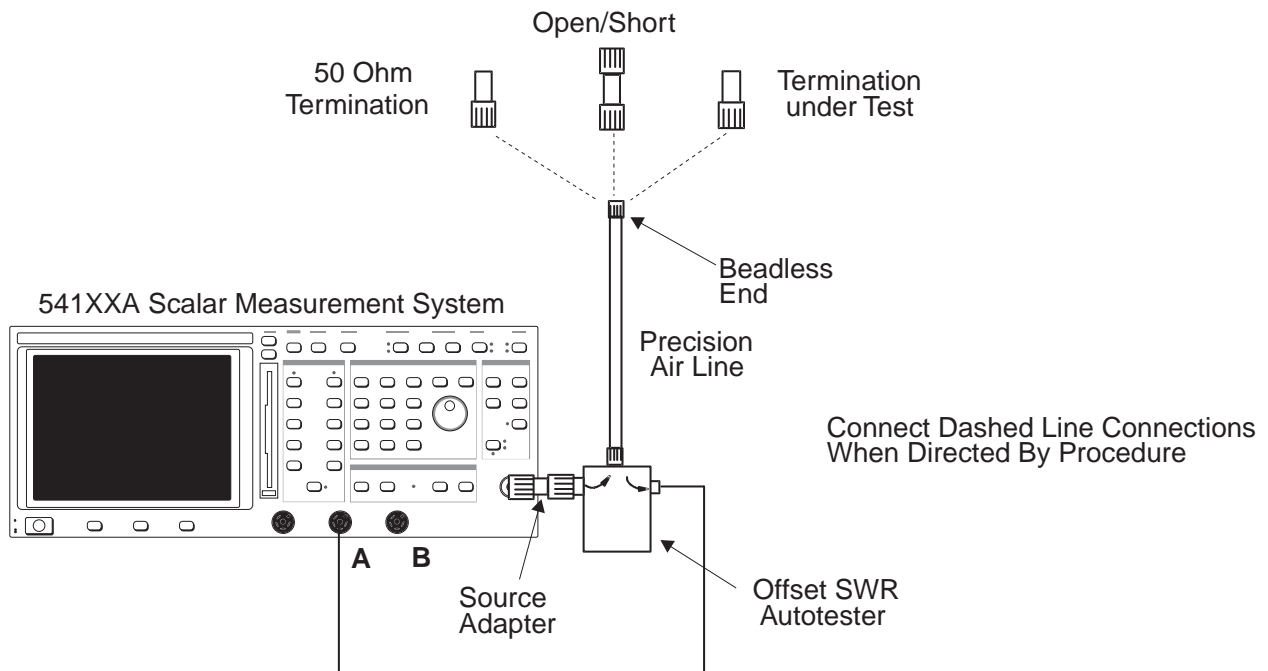

Figure 6. 541XXA Precision Return Loss Setup
1. Connect the test equipment as shown in Figure 6.